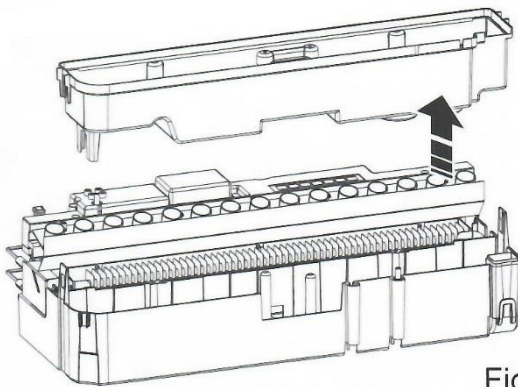

Fig 33
6. Gently lift up the sump (Fig. 33), taking care to keep it level so as not to spill any water. Sit the sump in the sink.